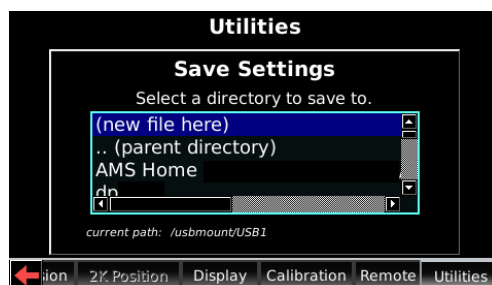

Figure 2-59 System/Utilities/Save Settings/Select a Directory
3. Press **ENTER** to display the files on the USB device, use the arrow keys to select the directory where you want to save the settings (see Figure 2-59), then press **ENTER** again.